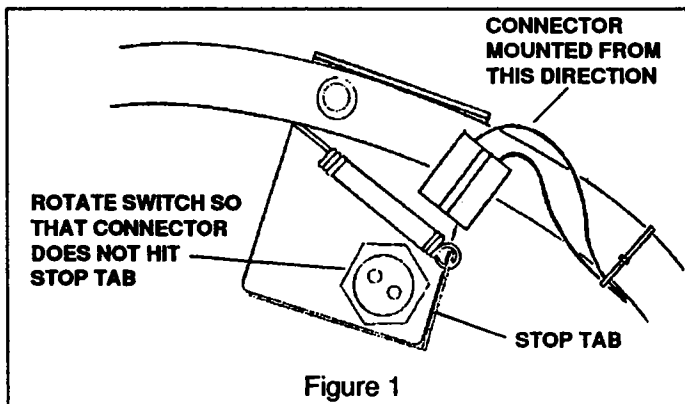

Figure 1
4. Route the safety interlock wires up the left handle tube and attach the connector to the switch as shown. Be certain that the connector does not hit the safety lever stop tab, if it does, rotate the switch to the position shown (see fig. 1).